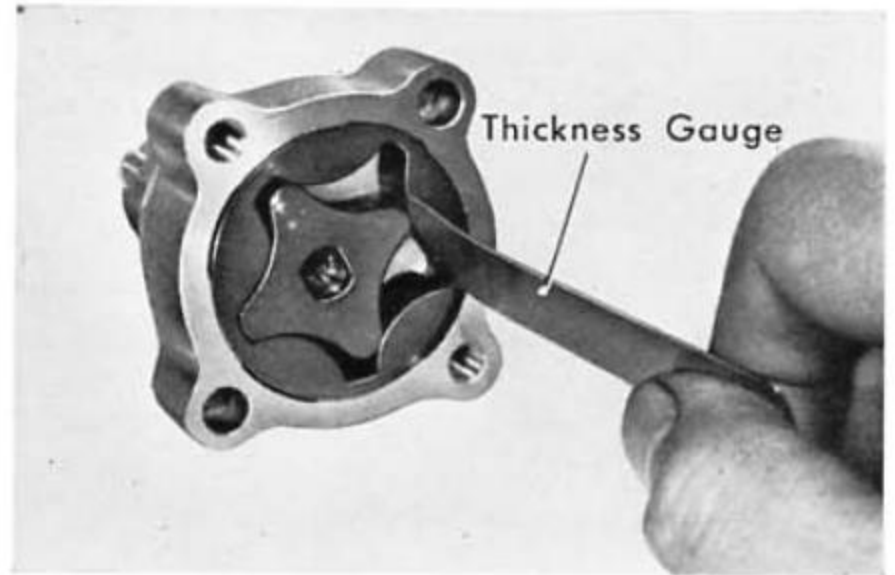

Fig. 1J-7
2. Inspect outer rotor to body clearance and side clearance (Fig. 1J-8).